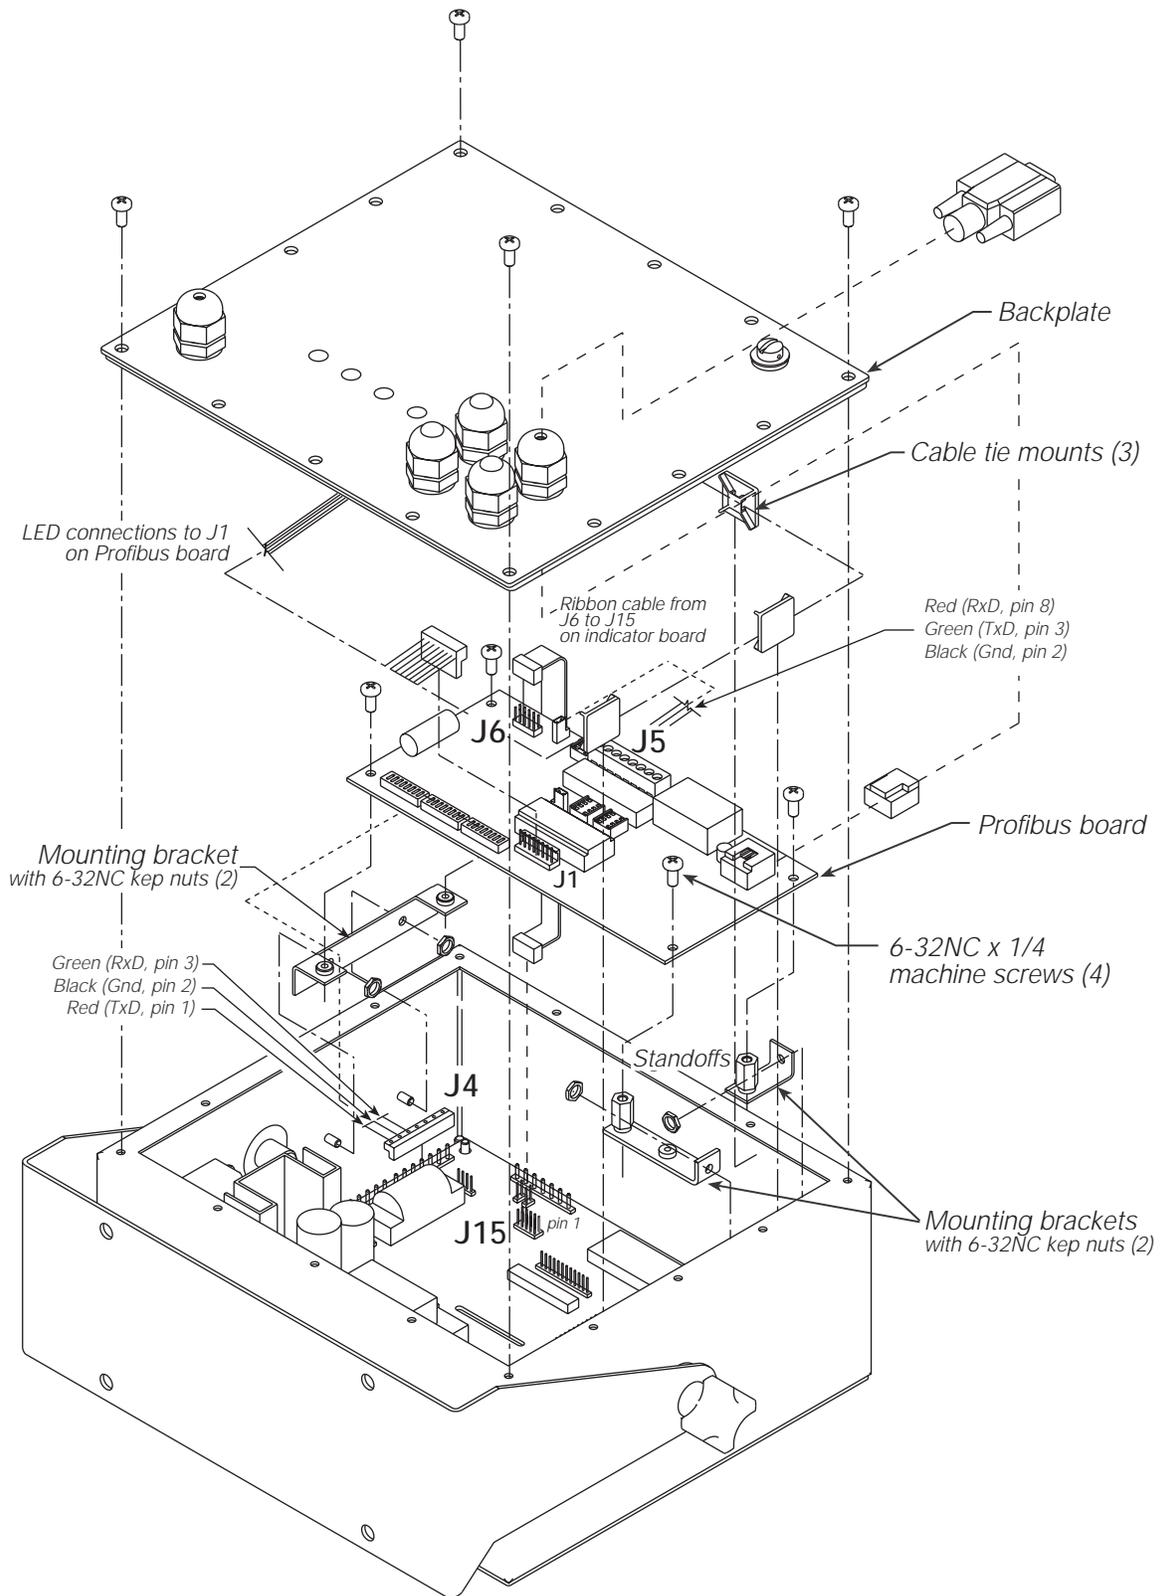

Figure 2-3. Profibus Indicator Interface Board Installation and Wiring
8. Use the four 6-32NC kep nuts supplied to mount the three brackets as shown in Figure 2-3 on page 4.
10. Use cable ties to secure cable from the backplate LED annunciators to the Profibus Indicator Interface board. Allow enough slack in the wires to reach the location of connector J1 (see Figure 2-3 on page 4).
11. Remove connector J4 from the header on the indicator CPU board. Connect serial communications wires to the connector as shown in Table 2-1 and in Figure 2-3, then reinstall J4 on the indicator board.
12. Plug 10-pin ribbon cable into connector J15 on the indicator CPU board as shown in Figure 2-3. Ensure connector is oriented as shown in the drawing, with red wire of ribbon cable toward center of board.
13. Use the four 6-32NC x 1/4 machine screws supplied to mount the Profibus Indicator Interface board on the brackets as shown in Figure 2-3.
16. Plug power supply ribbon cable connector from J15 on the indicator CPU board into connector J6 on the Profibus Indicator Interface board. Ensure cable is oriented as shown in Figure 2-3, with red wire of ribbon cable attached at pin 1 on the Profibus board.